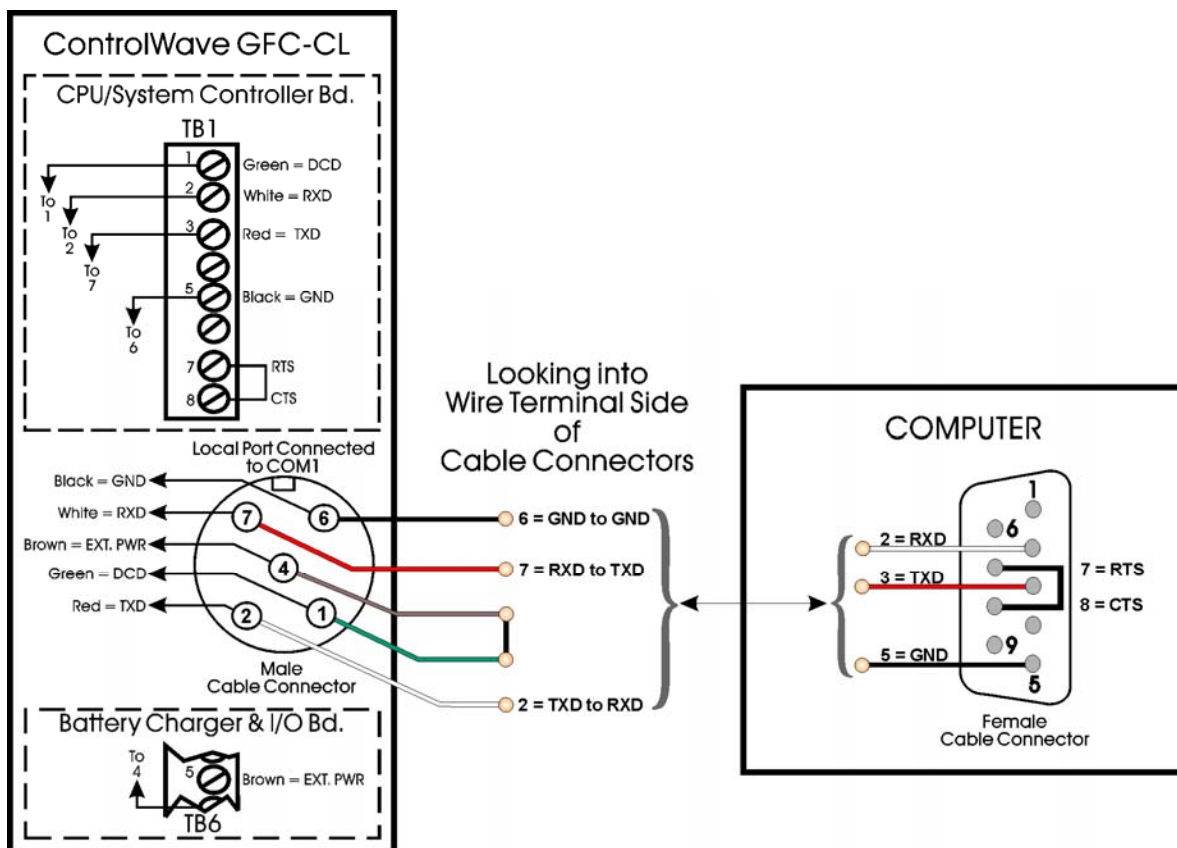

Figure D2A - PC Connected to ControlWave GFC-CL via Circular Local Port
2. Connect a Modem Cable (see Figures D2A & D2B) between a PC and the Local Port, i.e., Comm. Port 1.
- In the configuration menu, set the radio mode using either the MODE M (master) or MODE R (remote) command. **Note: There can be only one Master radio per network.** Go to the edit book and type in the serial number of the network's Master Radio. Set a unique Network Address (1 - 65000) using the ADDR command. **Note: All radios on the network must have the same Network Address.** Make sure the Baud Rate of any Remote Radio matches that of the Master Radio. Set the radio's data interface parameters (bps: 1200 – 114200 bps), Data Bits: (8). Parity (N), Stop bits: (1). Once settings have been implemented, press the Esc Key to exit the configuration menu.